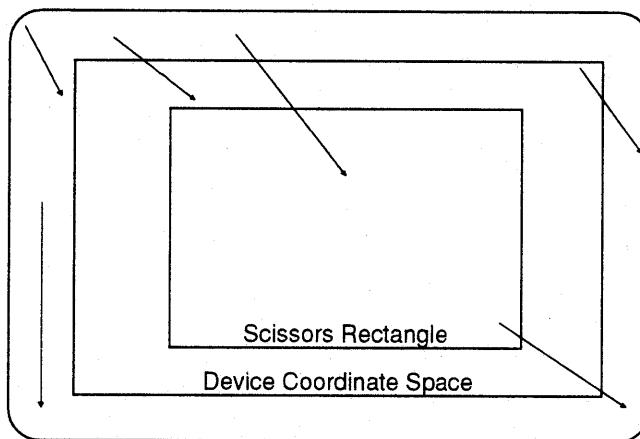

Figure 9-7. Exception generating patterned lines.
2. Exception Lines— are lines wholly or partially outside the device coordinate space. All lines shown in figure 9-7 generate exception conditions. The host processor is required to fully clip these lines to the device coordinate space. The patterned linedraw algorithm then attempts to draw these lines and update the **PATTERN\_INDEX** counter.